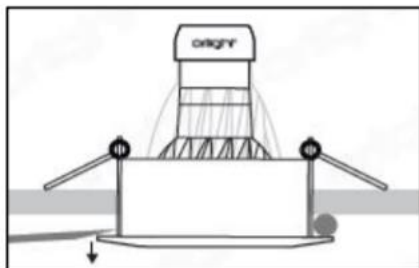

Figure 3.9
- Use the flat bladed tool to lever the other side of the fitting down, taking care to avoid damaging the ceiling. (Refer to Figure 3.9)